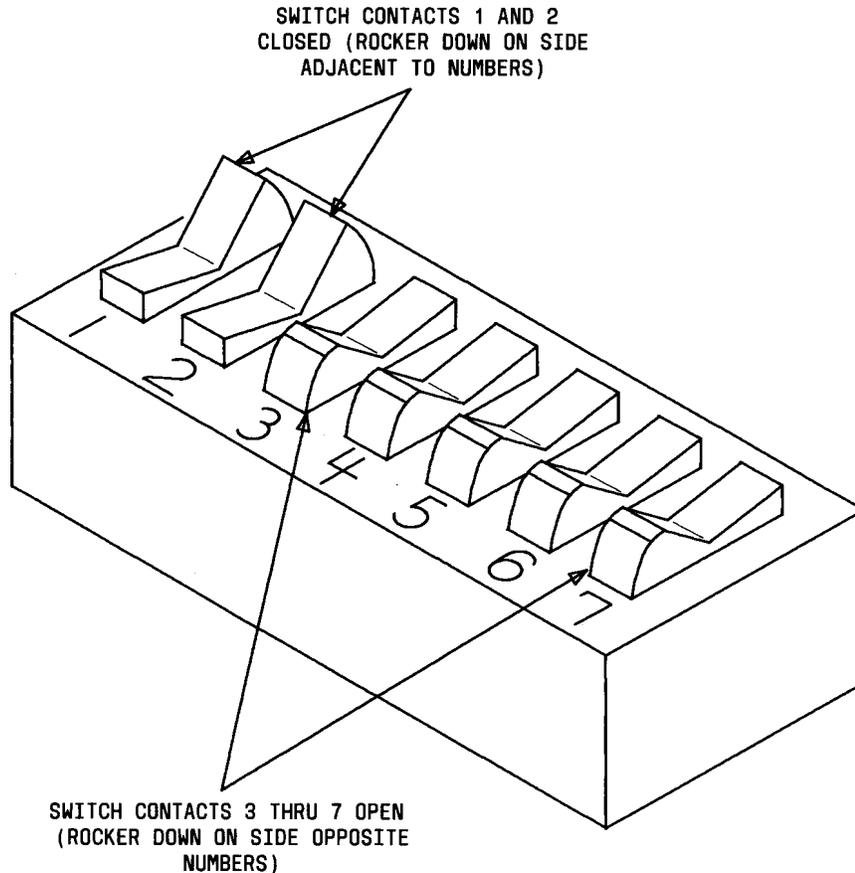
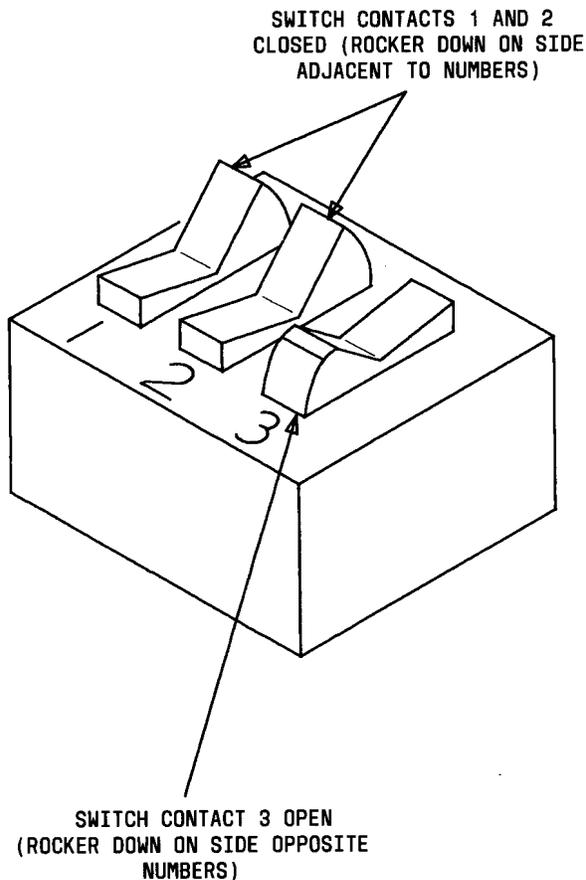

Fig. 2—Option Switch S2
Fig. 3—Option Switch S3
**3.04** Data set options are determined by the switch settings S1 (on data mounting), S2 (Fig. 2), and S3 (Fig. 3) on CP1. A description of the options shown in Table A follows.